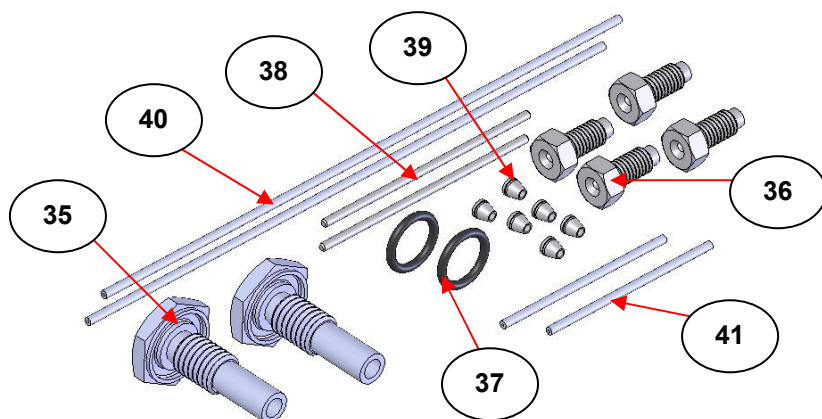

Fig 11. Parts of VT Cell Flow Fittings Kit GS20080
Please see Fig 11. to identify the parts provided from the VT Cell Flow Fittings Kit P/N GS20080.
To fit the VT Cell fittings from the GS20080 kit (as shown in Fig 11.) the replacement zero dead volume fittings (35) are screwed into the port positions (20) and (21) onto the top plate via their hexagonal nut head using the same 5/8" spanner. One of the black O-rings supplied (37 - there are two in the GS20080 kit) is placed between the zero dead volume fitting (35) and the top plate to create a vacuum tight seal when the zero dead volume fitting is screwed into position.